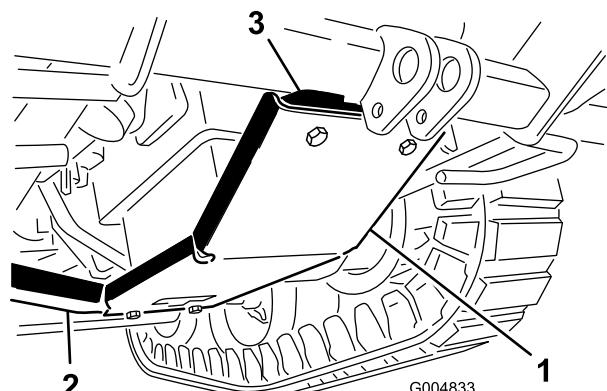

Figure 31
2. Install the skid plate (Figure 31) to the frame below the engine as follow:
- Mount the front of the skid plate to the skid mounting plate with 2 flange-head bolts (3/8 x 1-3/4 inches) and flange nuts (3/8 inch) (Figure 31).
- Mount the rear of the skid plate to the frame cross member with 2 bolts (3/8 x 1 inch) and flange nuts (3/8 inch) (Figure 31). Install the rear bolts from the top.